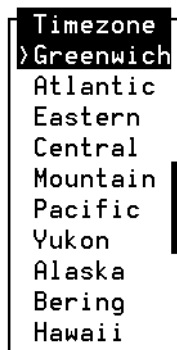

Figure 3-16. UNIX Time Zone Choices Menu
1. Press **(F2)** (Choices) to display the list of time zones (Figure 3-16).